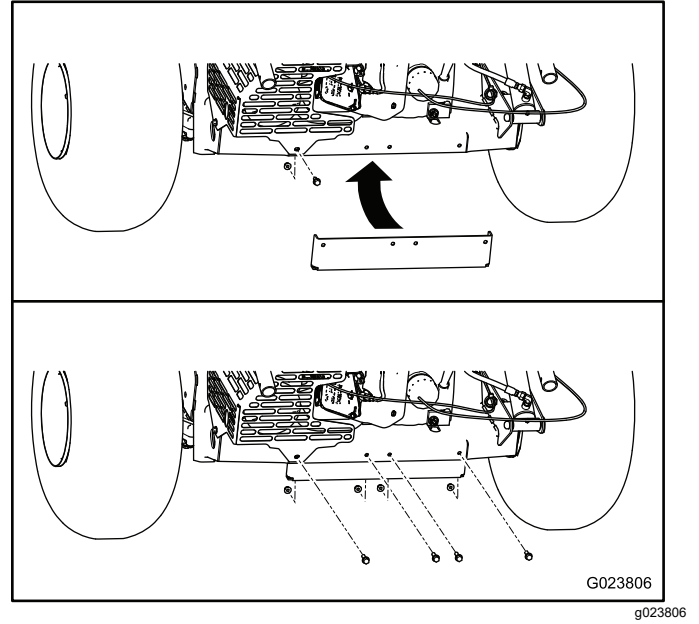

Figure 16
1. Remove the nut and the bolt securing the muffler shield to the back of the machine (Figure 16).
3. Secure the frame bracket with 4 bolts (5/16 x 1 inch) and 4 flange nuts (5/16 inch); refer to Figure 16).